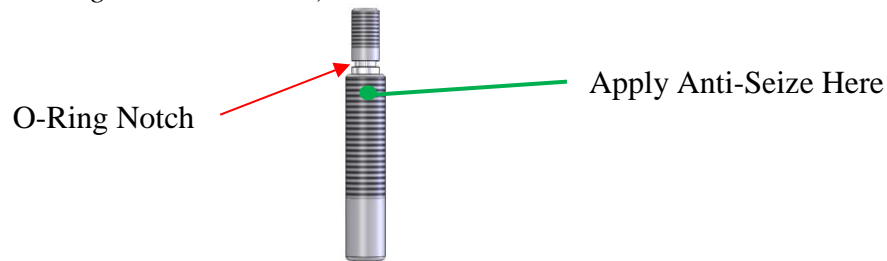

Figure 26: Adjustment Screw O-Ring Notch
1. Lightly apply a small amount of anti-seize to the threads of the adjustment screw. See Figure 26.
5. Carefully place the adjustment screw o-ring onto the adjustment screw making sure not to cut the o-ring. The o-ring should reside in a notch groove below the upper threads of the adjustment screw. See Figure 26.